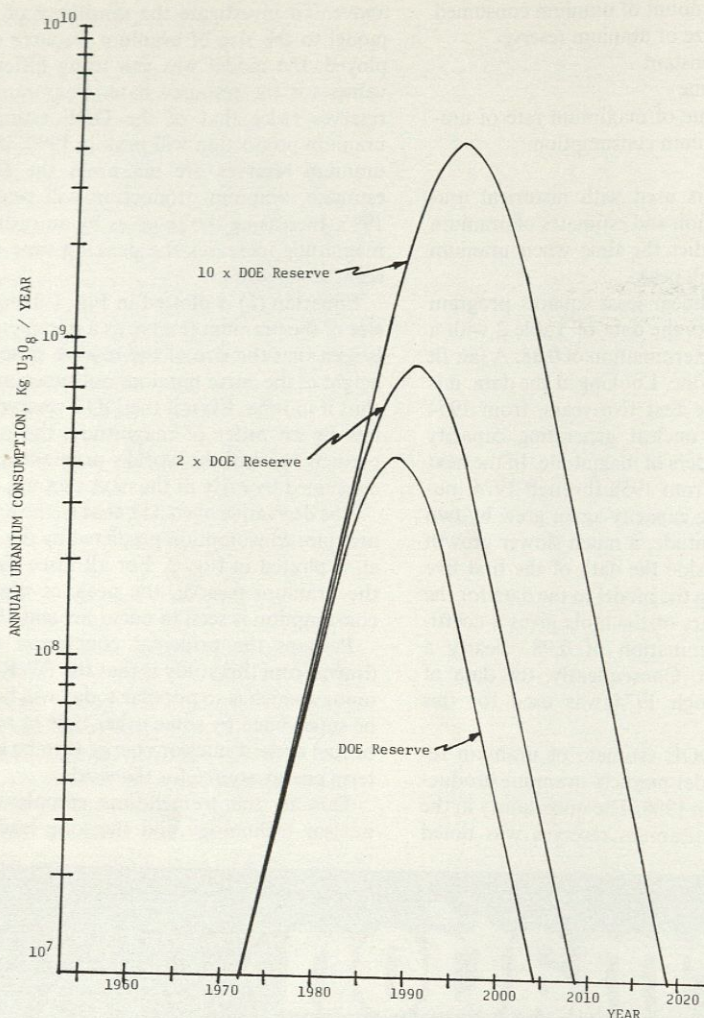

Figure 2
The derivative of eq. (1), that is, the annual uranium consumption predicted by the model, is plotted in Fig. 2. For all three sizes of the uranium reserve, the peak of uranium consumption is seen to occur around 1990.